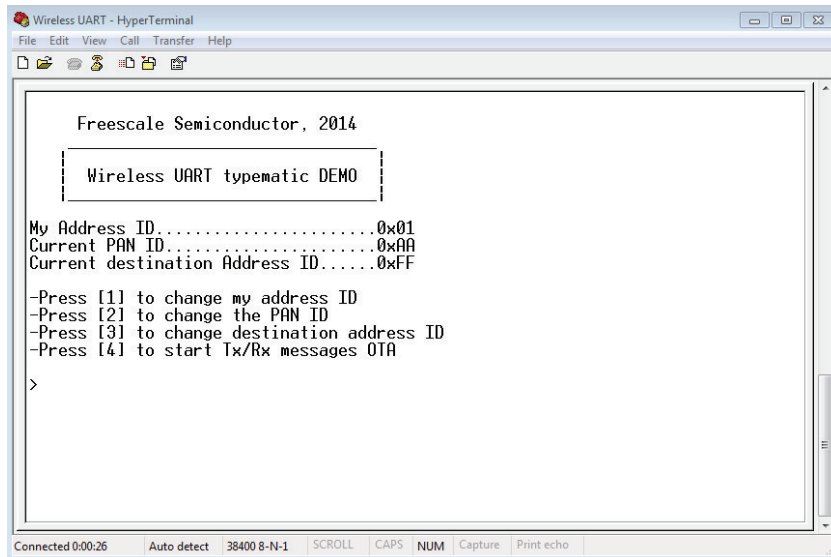

Figure 3-1. Wireless UART Start screen
3. Press reset button once on both boards. The terminal displays text as shown in Figure 3-1.